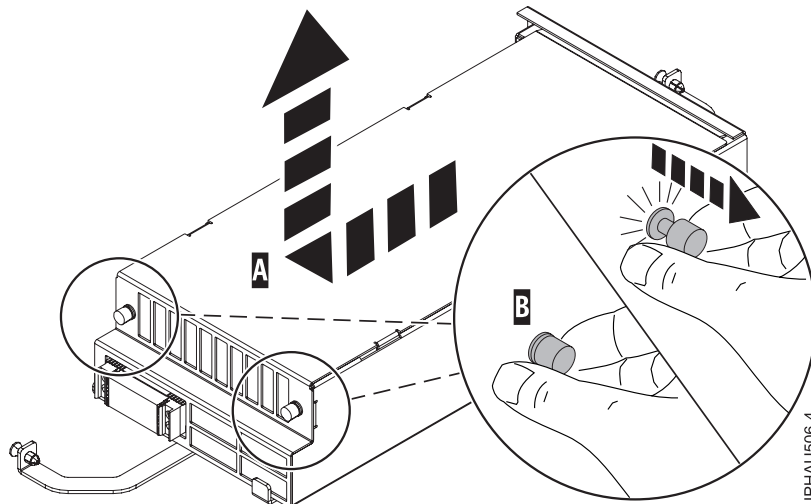

Figure 9. Removing the system processor assembly cover
3. Remove the system processor assembly cover (A) by unlocking the two retention knobs (B) and pulling back and lifting up the cover, as shown in Figure 9 on page 17.